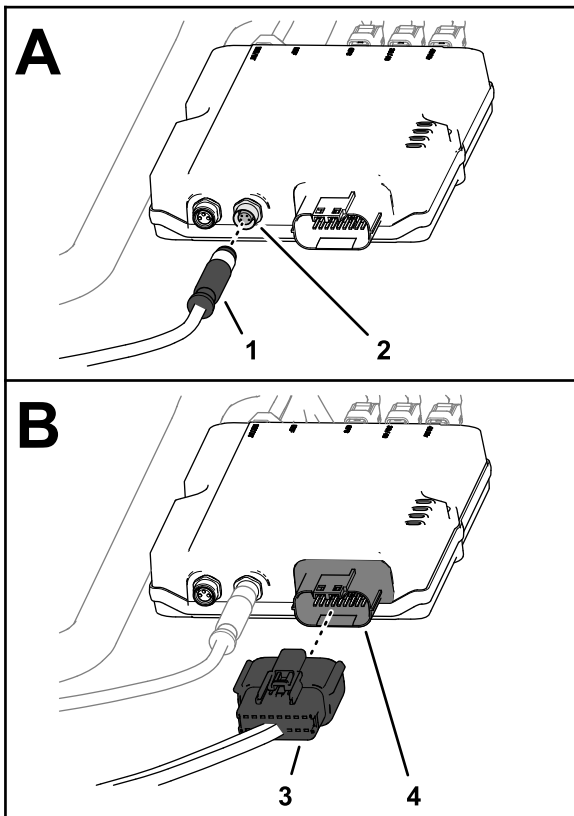

Figure 192
1. Plug the 4-pin connector of the modem data harness labeled ETHERNET CL55 into the 4-socket connector (unmarked) of the CL-55 modem, and tighten the knurled nut of the 4-pin connector (Figure 192).
2. Plug the 18-socket connector of the modem power harness labeled CL55 into the 18-pin connector of the CL-55 modem (Figure 192).